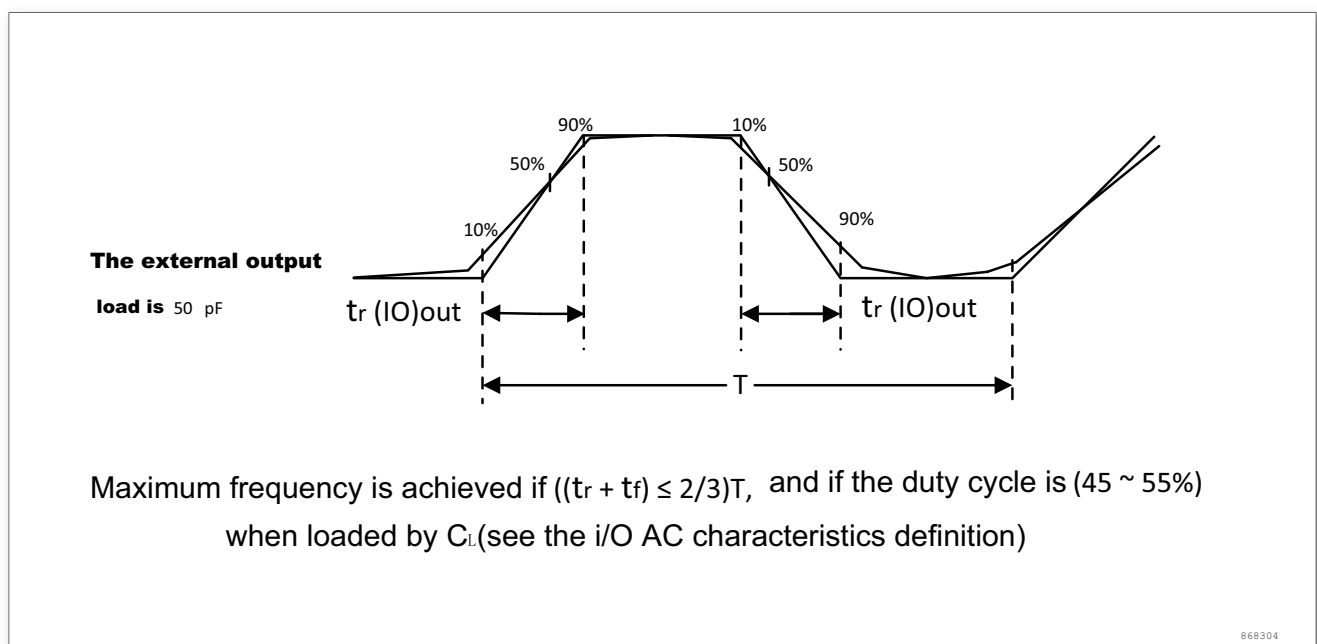

Figure 17. I/O AC characteristics
The definitions and values of the input and output AC characteristics are given in figure 17 and Table 39, respectively.
2. The maximum frequency is defined in figure 17.